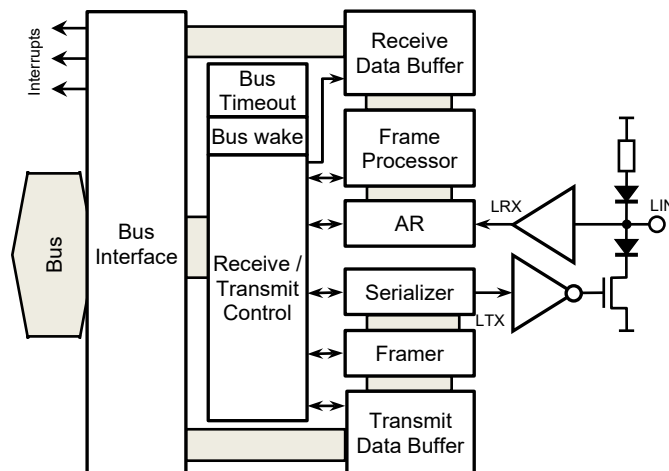

Figure 16: LIN Interface Module Block Diagram
The functional diagram of the LIN interface module is shown in Figure 16. The asynchronous receiver (AR) and the frame processor monitor the LIN bus for any incoming sync break/sync field, which identifies the transmission of a new frame. The frame processor also detects the baud rate of the incoming frame and automatically synchronizes the receiver to the LIN baud rate.